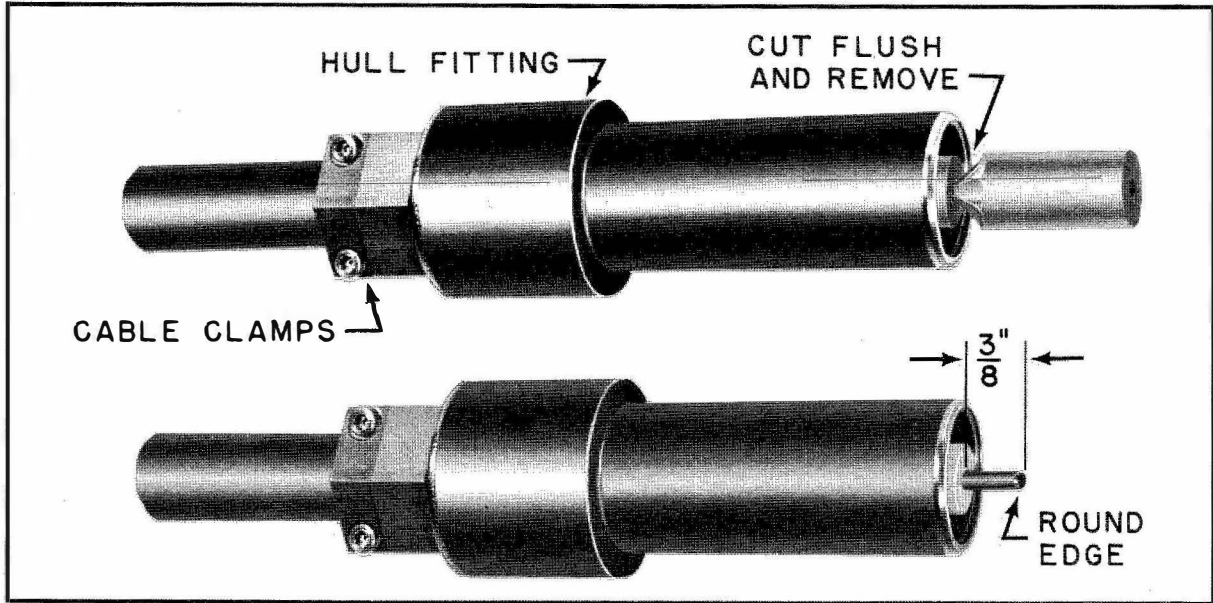

Figure 5-9f. Cable End Preparation
Step 8. - Cut and remove the cable dielectric flush with the inboard end of the hull fitting. Cut the inner conductor to leave a 0.375 inch length of conductor protruding from the dielectric. Round the end of the conductor slightly and remove all filings as illustrated in figure 5-9f.